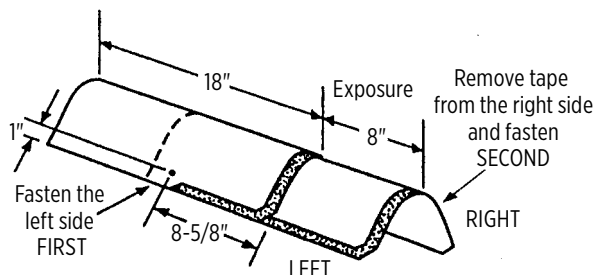

Figure 15-15: Installation of Shangle Ridge shingles on hips and ridges.
- Fasten each cap with two fasteners (Figure 15-15). The fasteners must be 1-3/4" long, or longer, so they penetrate either 3/4" into the deck or completely through the deck, exposing at least 1/8" of the tip of the nail. Expose 8" of the Accessory along the ridge or hip line and cover all fasteners.